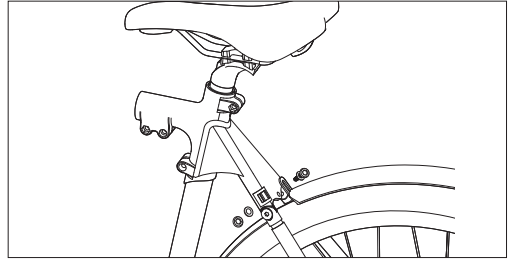

Figure 6-1
- b. After aligning the fender with the screw hole, re-tighten the mounting screws to affix it onto the seat tube joint, as shown in **Figure 6-1**.